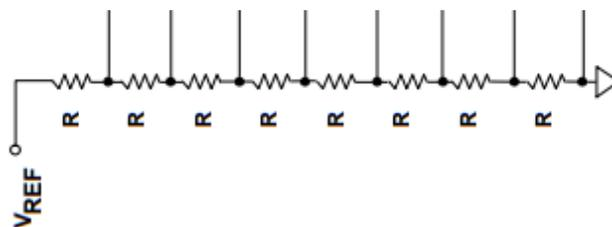

Figure 6.1. An 8-bit string ladder
1. A resistor string ladder, which is really nothing more than a voltage divider as shown in Figure 6.1, and